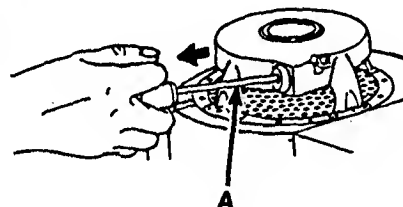

Fig. 31
B. Slowly pull recoil starter rope (A, Fig. 31) outward until you feel some resistance from engine compression—then rapidly pull rope outward.